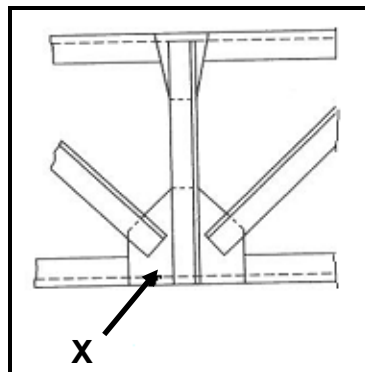

FIGURE 4.2
4.2 FIGURE 4.2 below shows a roof truss. Identify component X.